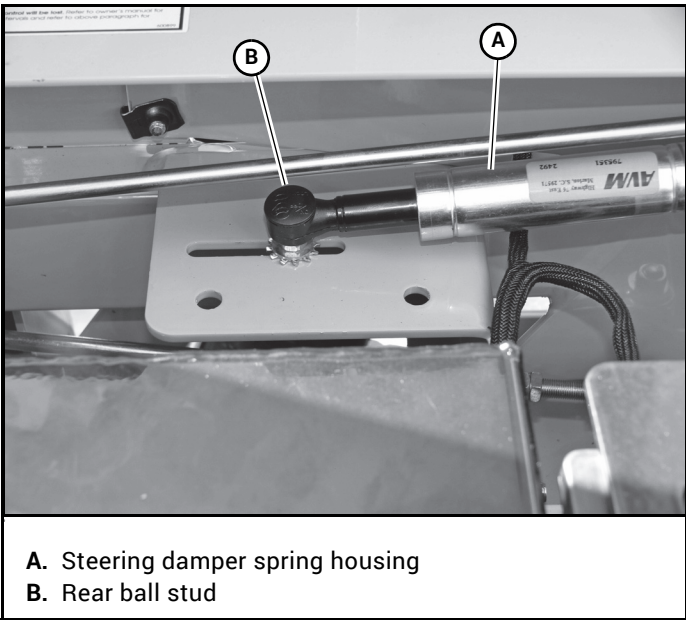

Figure 4-7
4. Pull the damper spring housing past the point that the internal spring is engaged. Figure 4-7